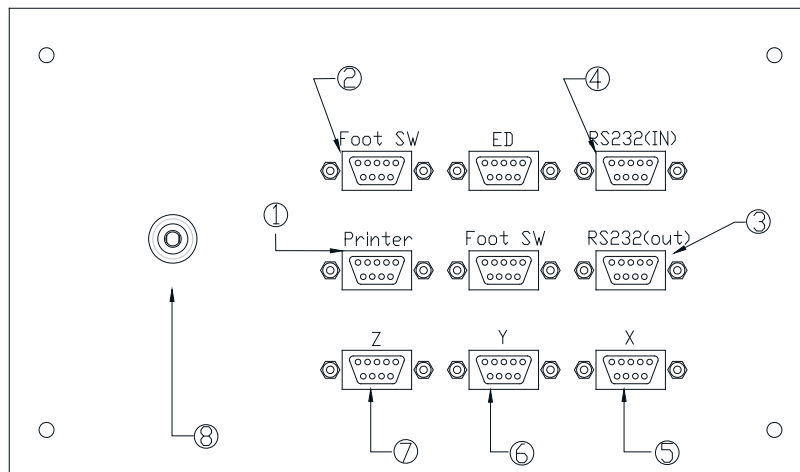

Fig 5 Signal Pin Board
3.2.3 Operation as Fig 5
5.6.1 Fig 5 in the RS232 interface, can be used for instrument and digital readout communication, through the use of special software to achieve automatic measurement data processing and mapping functions.